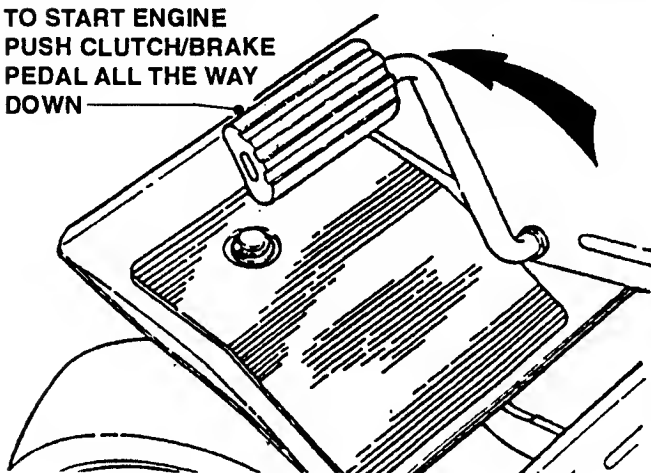

FIGURE 2.5
**IMPORTANT:** When the ignition key is turned to "START", the engine will turn over, but will not start unless the Clutch/Brake pedal is pressed all the way down, the Blade Lever is in the "OFF" position (See Figure 2.5). The operator should be in the seat. Start engine as follows:
1. Move transmission shift lever to (N) Neutral position. **DO NOT** start engine with transmission shift lever in a drive position.
3. Press Clutch/Brake Pedal all the way down and hold while starting engine. See Figure 2.5.